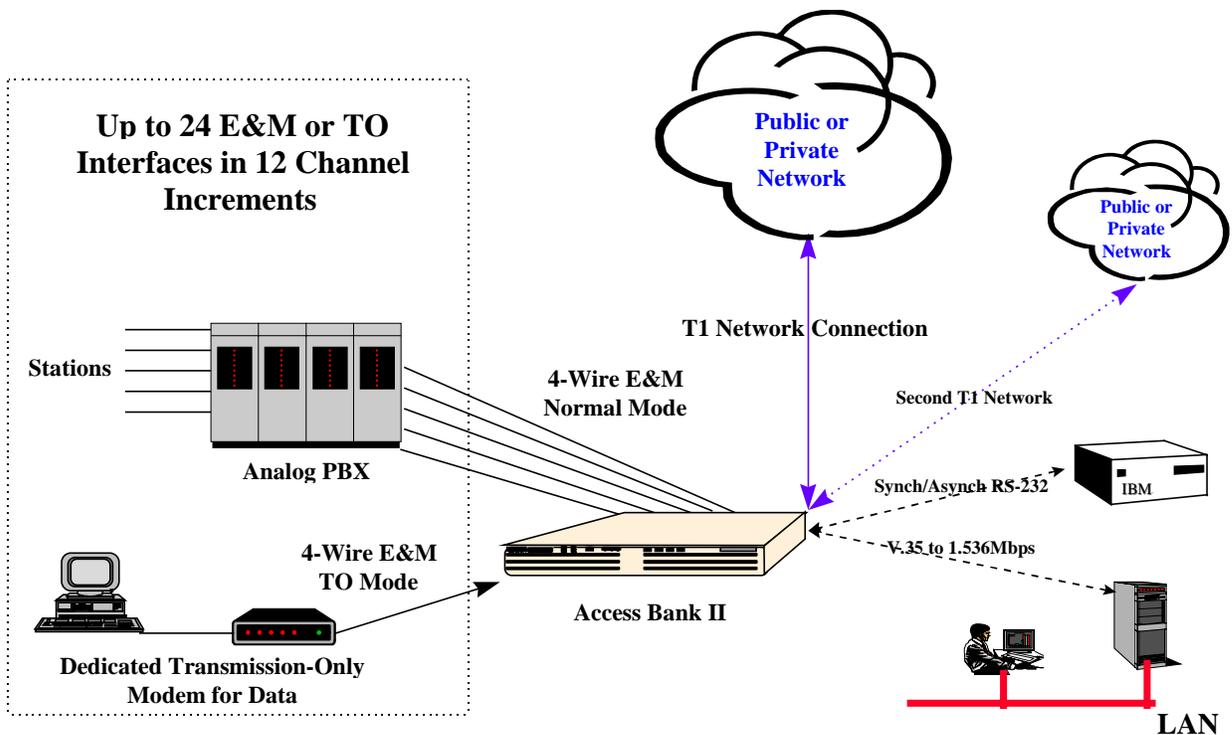
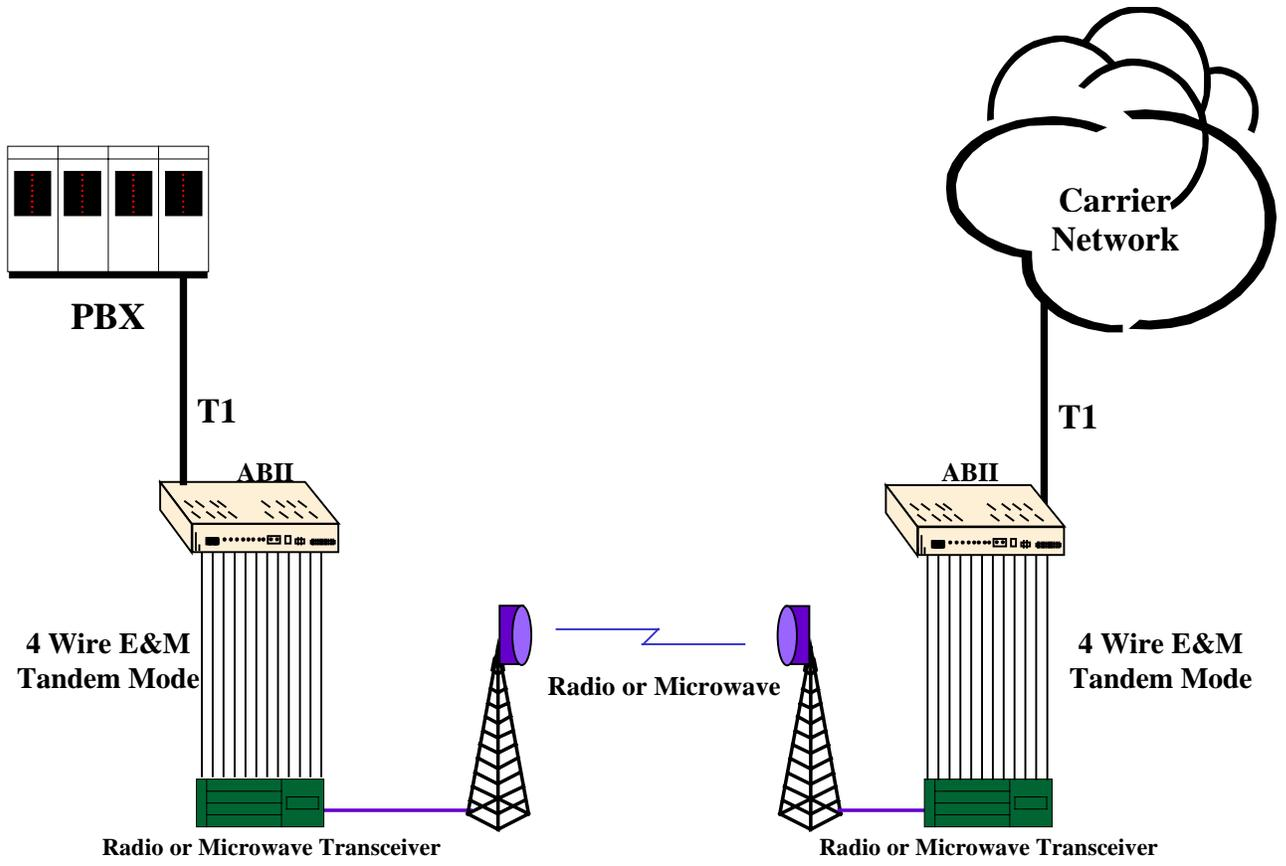

Figure 11-1. Normal Mode E&M and TO Termination
Figure 11-2. Tandem Mode E&M and TO Access to Leased Lines or Carriers
The major applications for the 4-wire E&M/TO voice card are E&M Tie Lines operating in either Normal or Tandem mode, and dedicated Transmission Only (TO) operation for audio paging, mobile radio, or modem transmission. Additionally, this interface also supports two-way Direct Inward Dial (DID) applications. Refer to **Figure 11-1** and **Figure 11-2** below for pictorial representations of these typical applications.